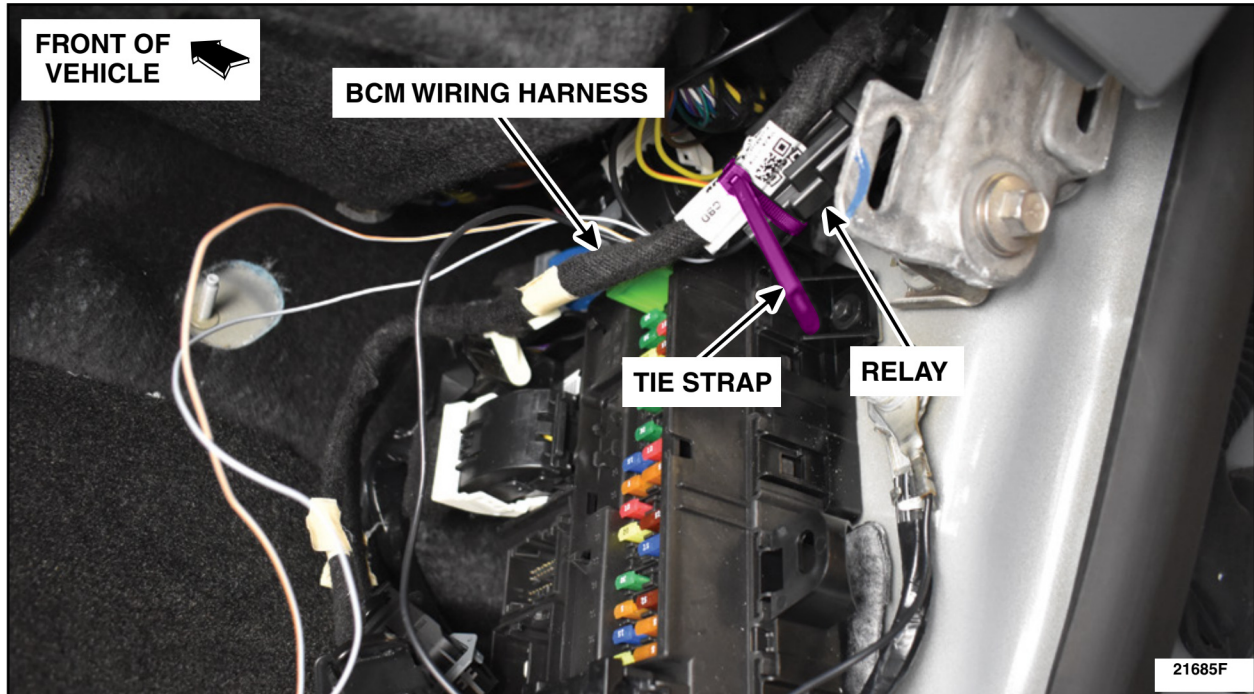

FIGURE 4
8. Place the Relay Harness, included in the kit, onto the Body Control Module (BCM) wiring harness and secure using a tie strap. See Figure 4.